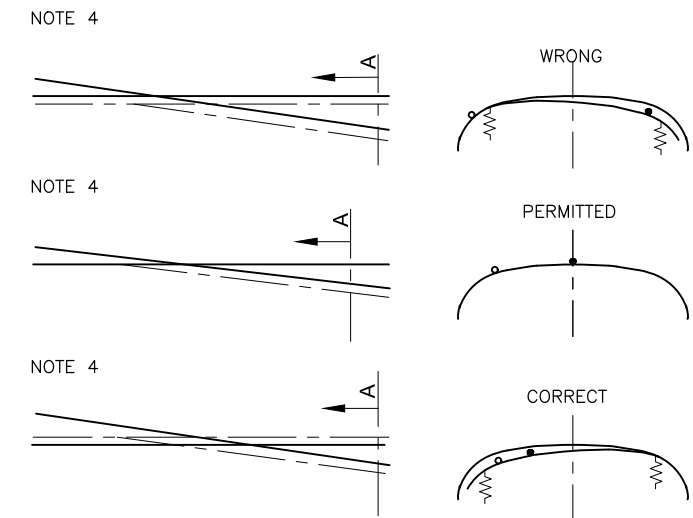

FIG. 4
4. THE CONDUCTORS OVER THE TURNOUTS SHALL BE ARRANGED IN SUCH A WAY THAT THE TWO CONTACT WIRES USED WILL TOUCH ONLY ONE SIDE OF THE CONTACT STRIP WHEN A VEHICLE TRAVELS ON THE MAIN LINE AND IN THE MAIN DRIVING DIRECTION AT POSITION A. POSITION A IS THE LOCATION WHERE THE CROSSING CONTACT WIRE COMES IN CONTACT WITH THE PANTOGRAPH. (FIG. 4 and 5)